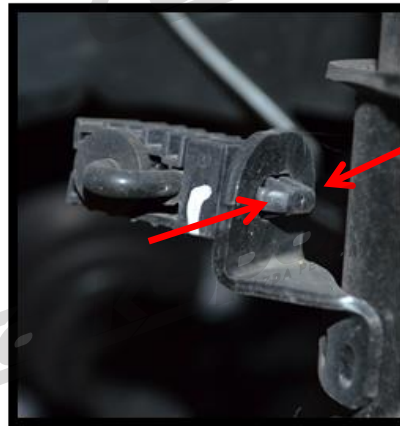
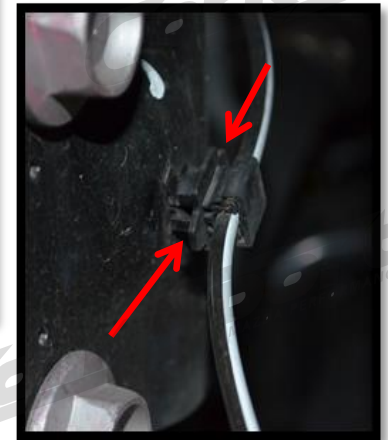

Figure 2b
Figure 2c
- b) Remove the two ABS sensor attachments (shown in Figure 2b and Figure 2c).
b) Remove the two ABS sensor attachments (shown in **Figure 2b** and **Figure 2c**) using a pair of needle nose pliers carefully squeeze the tabs in the direction of the red arrows and pull off strut body.